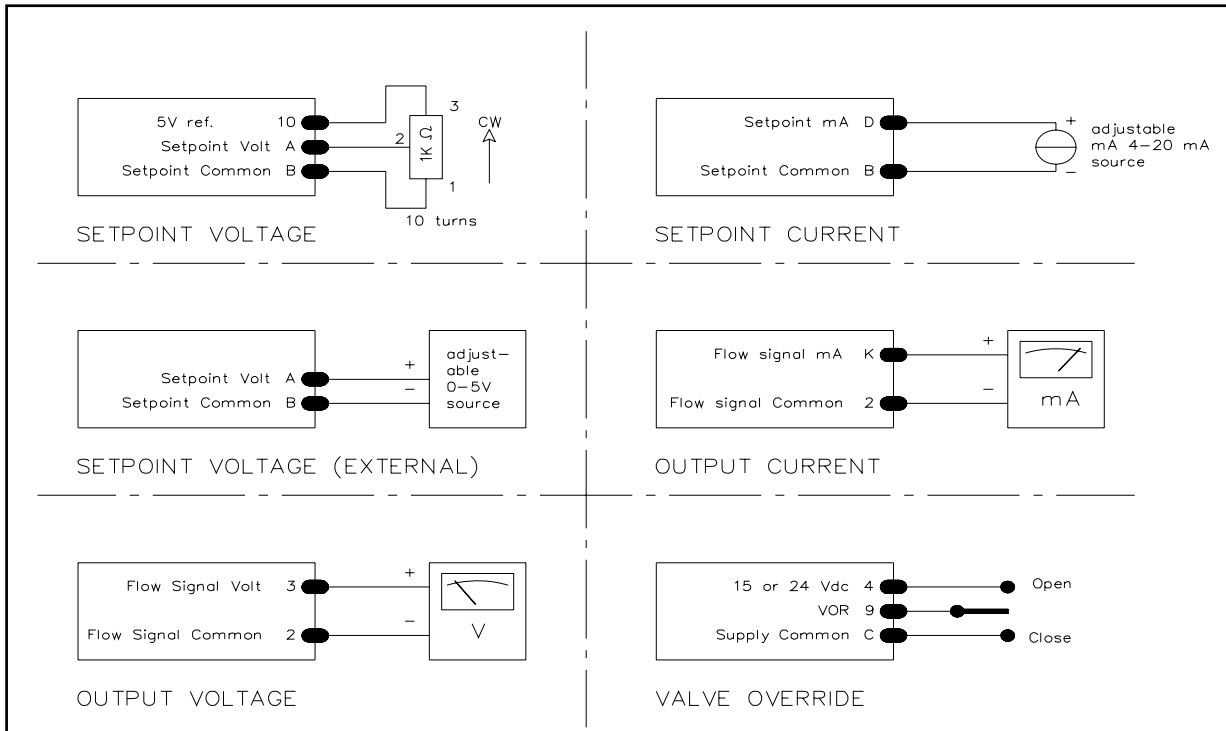

Figure 2-4 5850TR Hook-up Diagrams Card Edge
(Refer to figures 2-4, 2-5)
For wiring configuration; please refer to figure 2-4 and 2-5.
This input allows the user to establish a controlled flow rate. The 5850TR supports two types of I/O control signals; 0-5 Vdc and (0) 4-20 mA. Refer to Figure 2-4 for the I/O signal wiring diagram.
Refer to figures 2-4: